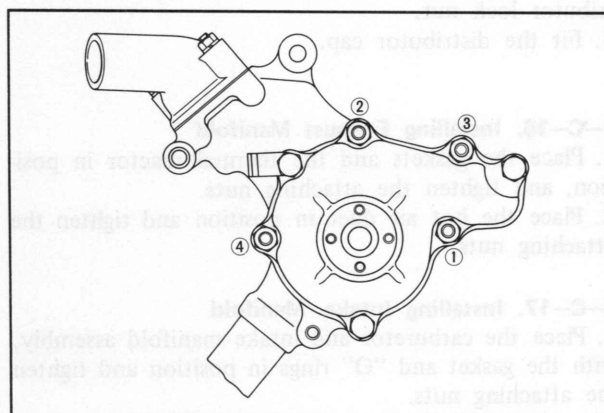

Fig. 1-89 Tightening order of water pump
2. Place the gaskets and water pump on the front housing, and tighten the attaching nuts evenly to 2.75 m-kg (20 ft-lb) in the sequence shown in Fig. 1-89.